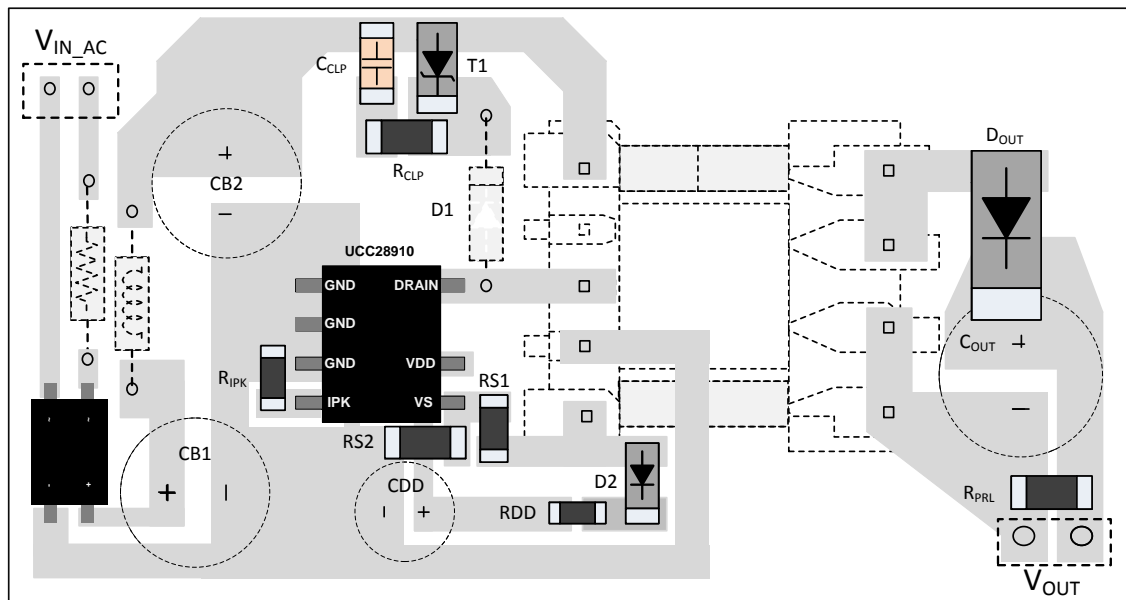

Figure 50. UCC28910 Layout Example
5. Place the auxiliary voltage sense resistor divider (R_{S1} and R_{S2} in Figure 50) directly on the VS pin keeping traces as short as possible.